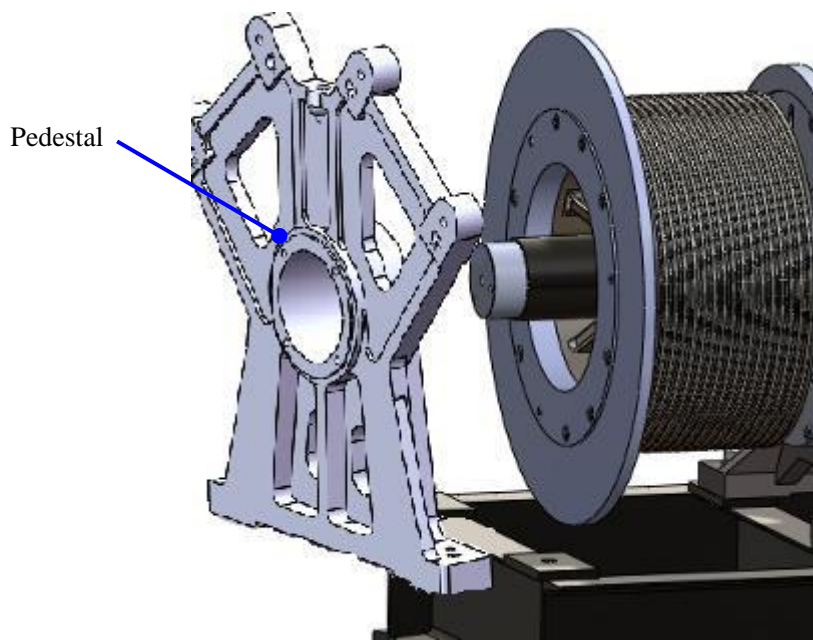

Figure 68: Install the Pedestal on the main shaft
11. Install the pedestal on the main shaft. See Figure 68.